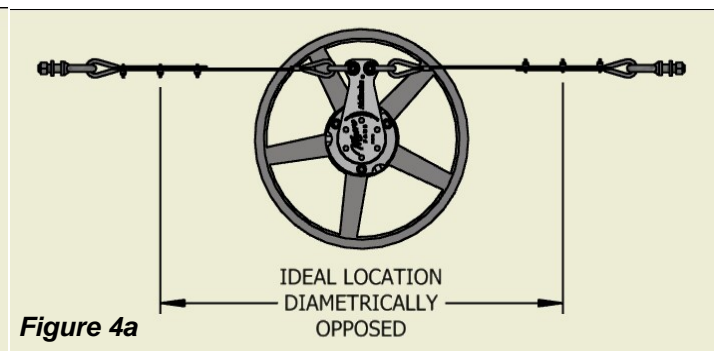
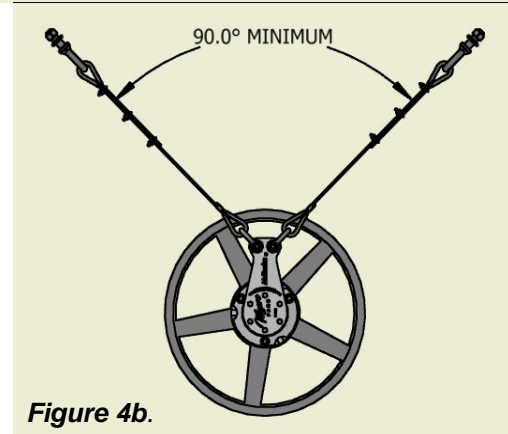
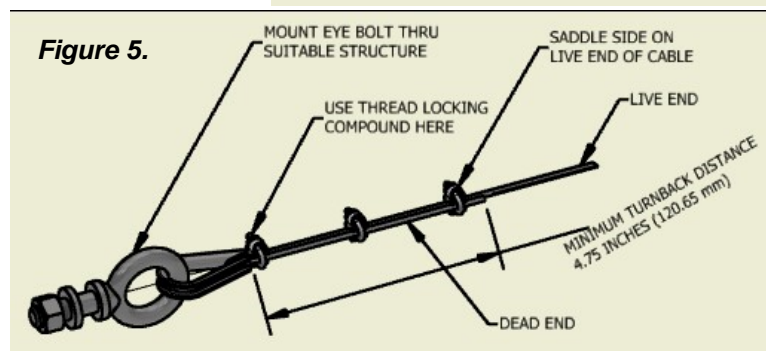
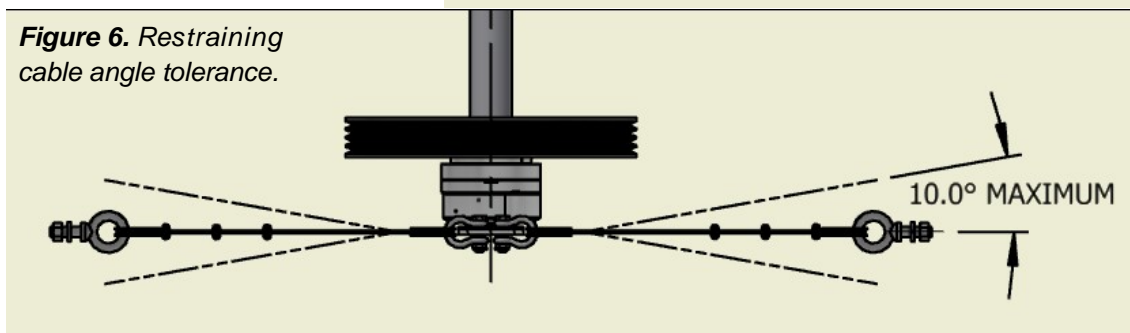

Figure 4a
Figure 4b.
Figure 5.
Figure 6. Restraining cable angle tolerance.
STEP 4: Refer to **Figure 4a, Figure 4b, Figure 5 & Figure 6**. Attach the supplied 1/2"-13 eye bolts to nearby suitable supports using supplied lock washers and nuts. Each eye bolt should be as near to straight-line opposite each other as possible (see **Figure 4a**). Effectively creating an imaginary line through the junction of the double cable AirBrake® arm shackle bolts. While 180° is the optimum cable placement, it is allowable for the cables to form as small an angle as 90° (see **Figure 4b**), on the plane of the AirBrake® arm. Secure the free ends of the restraining cables to the eye bolts by first inserting one of the supplied thimbles through each eye bolt. Pass each cable around it's associated thimble and secure with three wire rope clips on each cable. See **Figure 5** for proper wire rope clip installation. Ensure that the attachment of the cable to the support will not make the cable more than plus or minus 10° out of level as illustrated in **Figure 6**. Remove as much slack as practical from each cable. However, cables should **NOT** be taut. Apply Loctite® 262 (or equivalent) to the threads of the wire rope clips and tighten the clips.